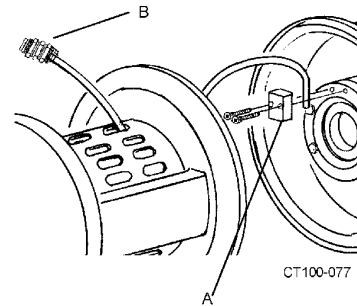

Figure 20 - Cascade System Installation
When this option is ordered, a fitting assembly (Part Number 60112) (Figure 20, item B) is supplied for directing a flow of water onto the backplate/seal area.
- The water cascade block (Figure 20, item A) must be above the seal on the assembled backplate to flow water onto the seal face.